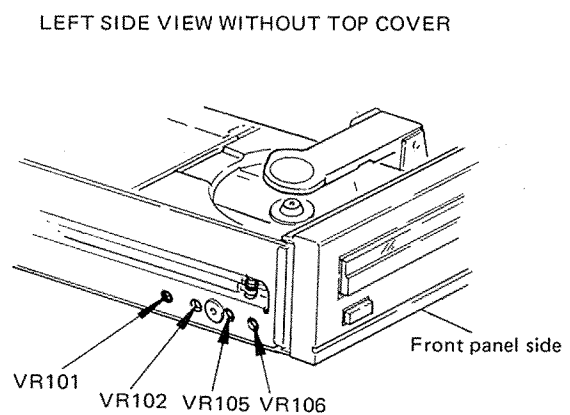

Fig. 17
2. Adjustment of motor amp. off-set voltage. (Fig. 17)